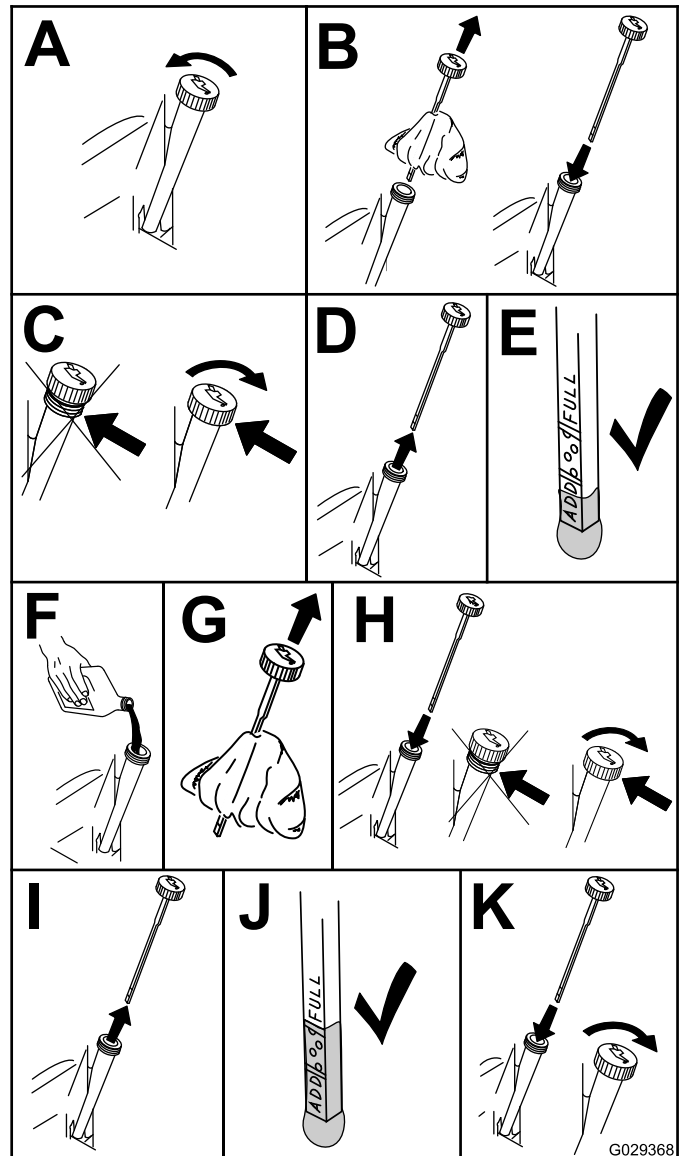

Figure 31
- Check the engine-oil level (Figure 31).